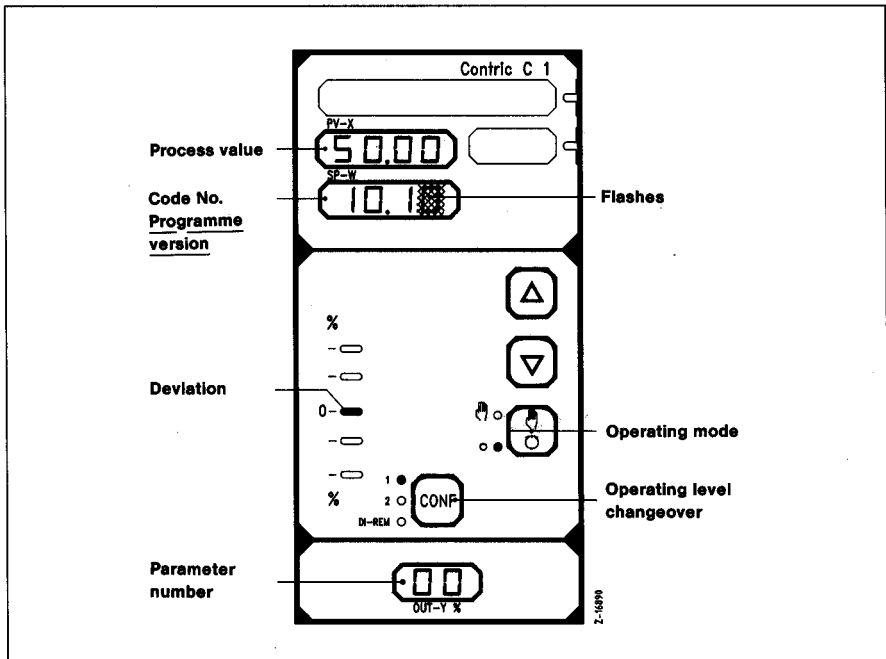

Fig. 2.5 Display of programme version
- The code number is called up by pressing the function key <CONF> once (Fig. 2.5).